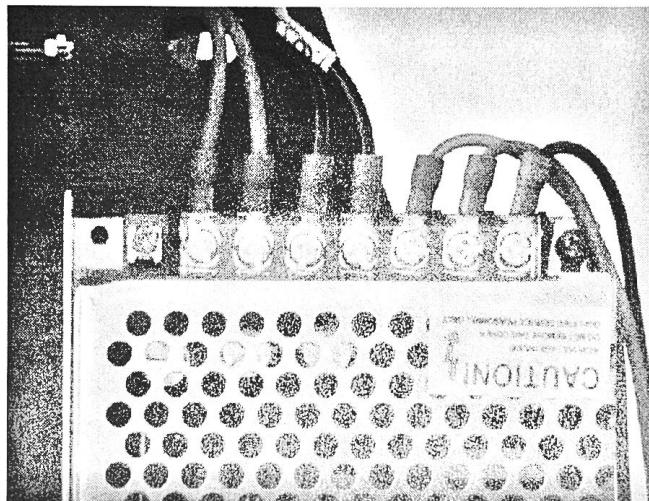

Figure 17
2. Find power cable ⑯ and connect A3 assembly and A2 assembly. One end of the power cable connection is shown in figure 17 and the other end is connected to port 1.